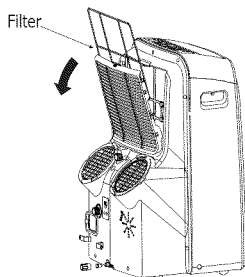

Fig. 23
- This unit has a filter. Grasp the upper panel tab and take off the filter which behind the grill of the back panel (Fig.23).